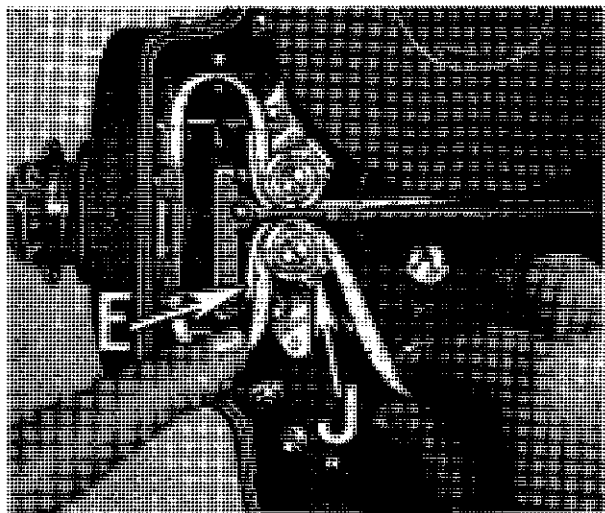

Figure 7
7. Leaving a lower loop of about the same size as the upper loop, insert the leader between the take-up sprocket J and the lower film guide shoe E, as shown in Figure 7. Engage the sprocket teeth with the perforations in the leader.